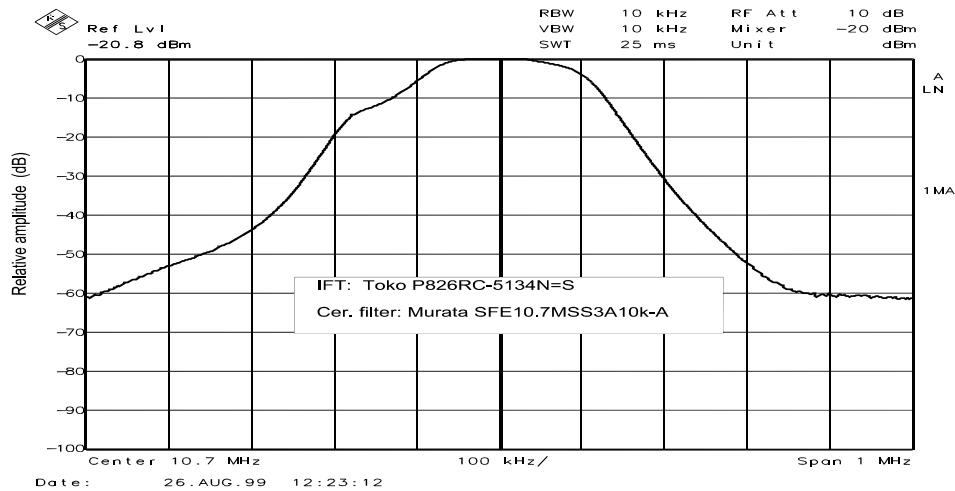

Fig.8 AM 1st IF selectivity
*The suppression at 9,8 MHz in a first IF selectivity acc. to Fig. 8 is about 65 dB.*
\* **The 1st IF-filter**, symmetrical at the mixer-output, pins 35/36, is a tuned LC circuit with a ceramic 10.7MHz filter, common used with FM, having a behaviour as shown in Fig.8.